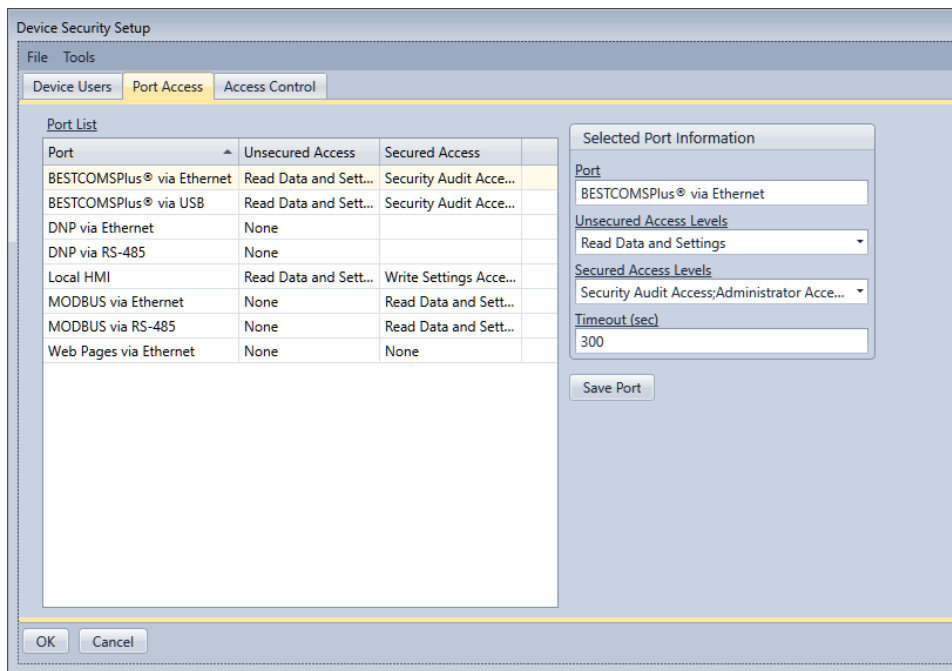

Figure 9-2. Port Access Screen
1. Select the Port Access tab. See Figure 9-2.